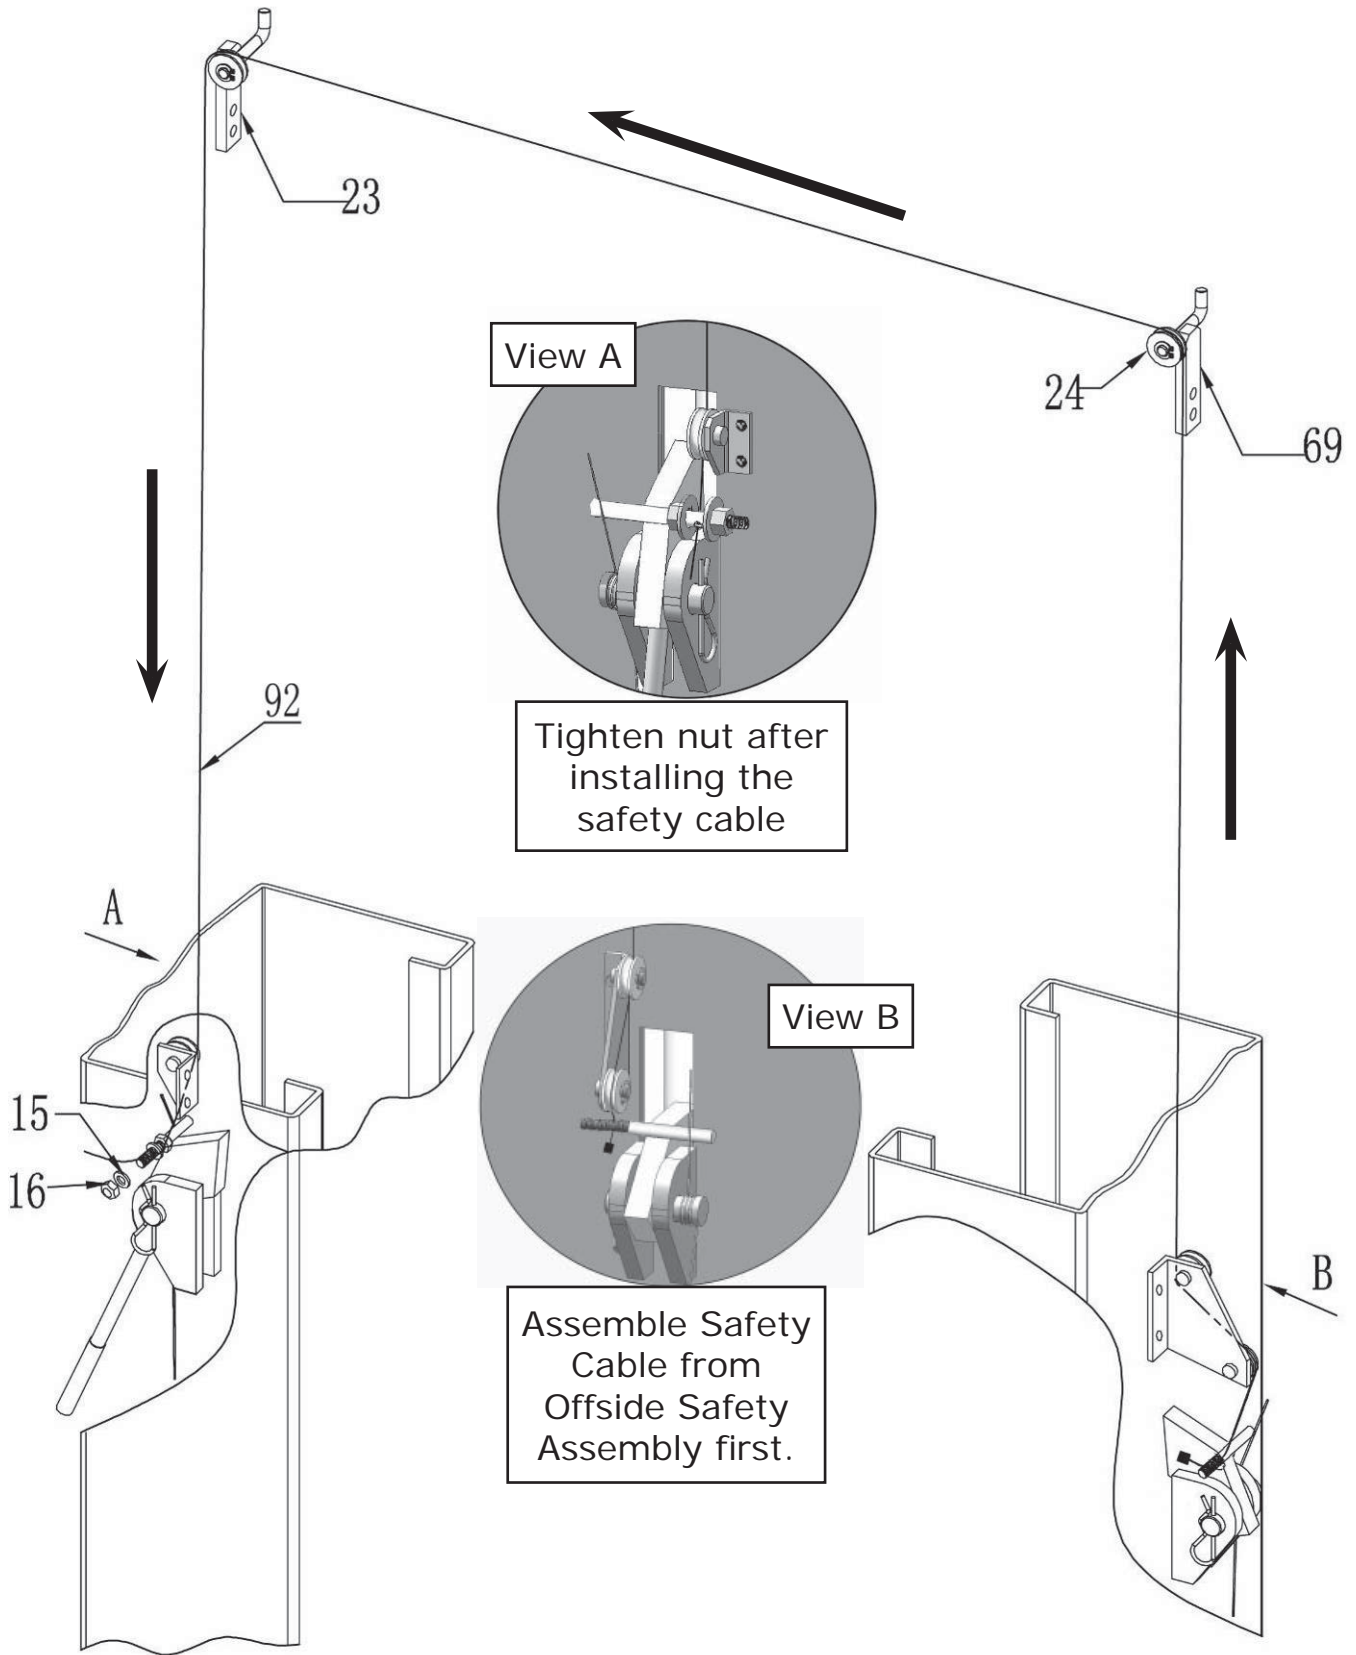

Fig. 25
M. Install safety cable (See Fig. 25)